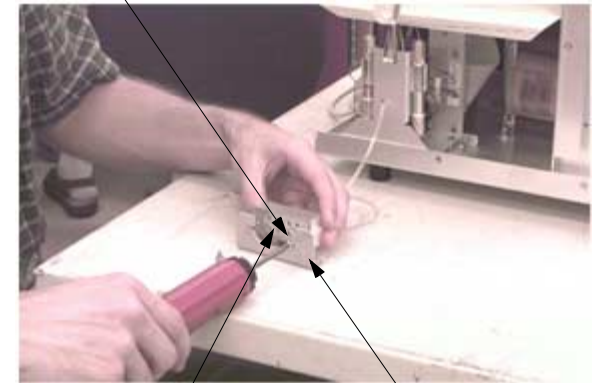

FIGURE 3a
- 1.1.6 Secure manifold bracket, 03-933194-01 to manifold, 03-925377-01 using two each 8-32 X 1/4" screws, 12-901165-00. Secure manifold and bracket to chassis top using another two each 8-32 X 1/4" screws, 12-901165-00 as shown in Figure 3a/b.